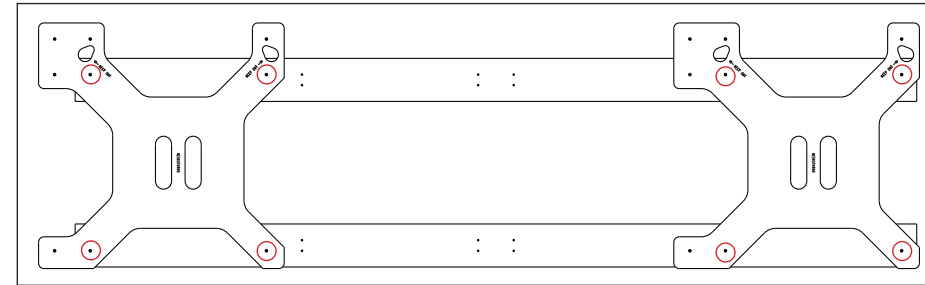

Figure 4: Install Second Wall Tube
3. Install the second wall tube above the first tube while referring to **Figure 4:**
- c. Drill four 17/64" (~0.266") clearance holes through the front and rear walls of the tube at all stud locations on the tube. Refer to **Figure 4**.